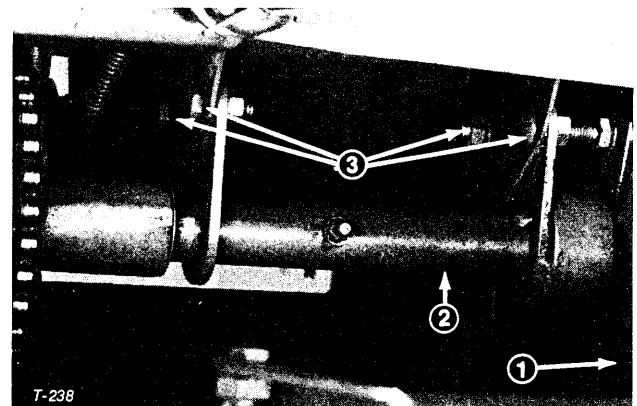

Figure 40
3. Remove chain guard (Fig. 40).
4. Loosen capscrews, locknuts and truss head screw securing traction countershaft to frame (Fig. 40).
6. Make sure chain sprockets are in alignment and tighten fasteners (Fig. 40).
2. Remove the traction belt; refer to Traction Belt Replacement, page 23, items 1-3.
4. Remove differential chain guard from left side of machine (Fig. 40).